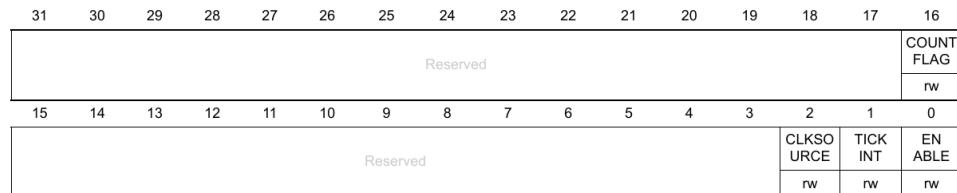

Fig. 14.3: Control Register (CTRL)
**Solution:** Fig. 14.3 shows the SysTick CTRL register. 0x00010000 is used in the above command to mask all the bits except for bit 16, which is the COUNTFLAG. The **while** loop will stop once COUNTFLAG = 0. The while loop is used for the delay.
**Solution:** From Fig. 14.3, ENABLE = 1 enables the counter (for delay) and CLKSOURCE = 1 enables the 8 MHz internal RC clock.